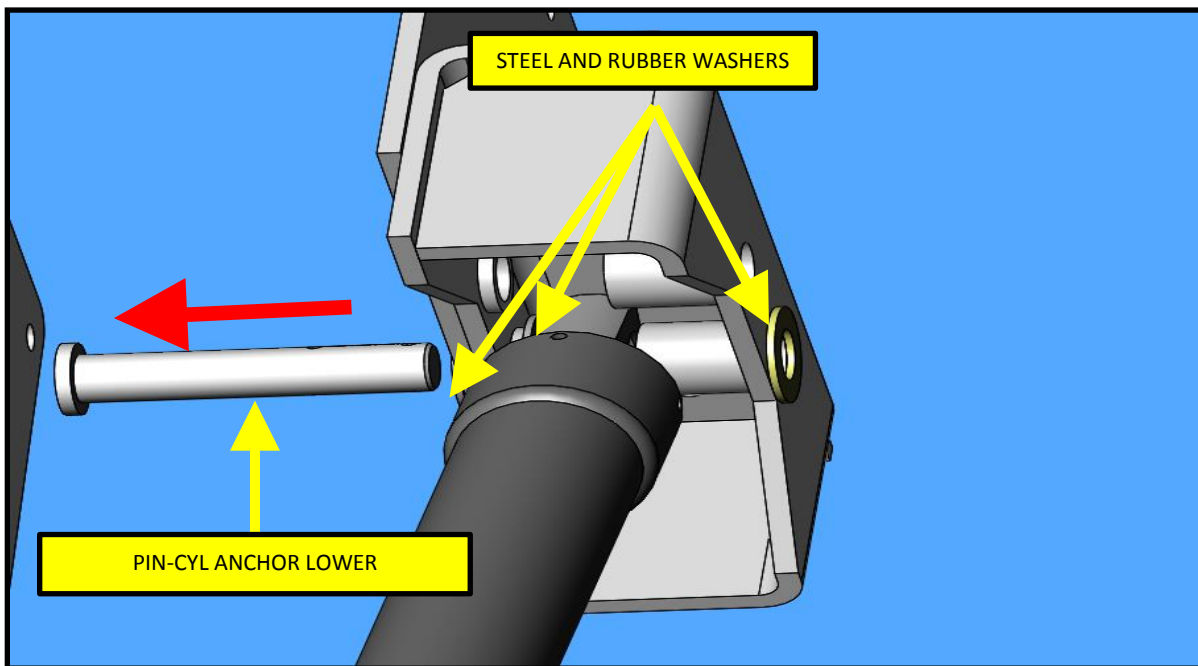

FIG. 17-2
29. Slide out upper pin and remove all steel and rubber washers and properly dispose of. Refer to FIG. 17-2.